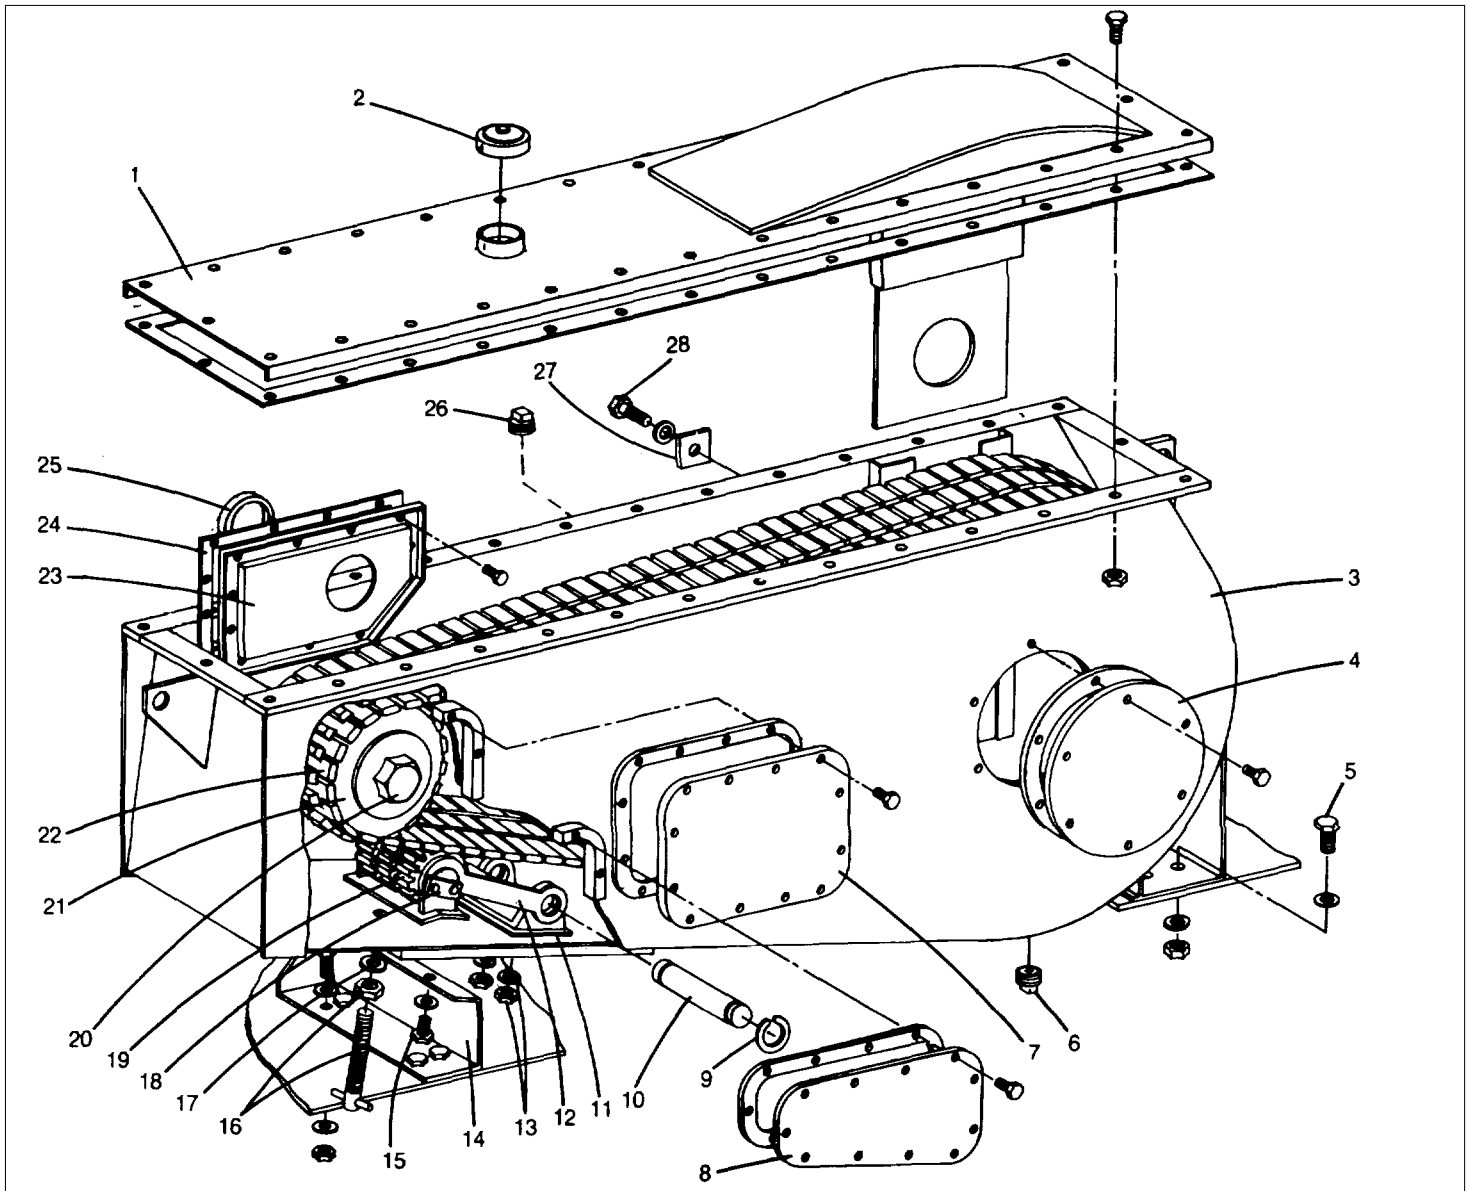
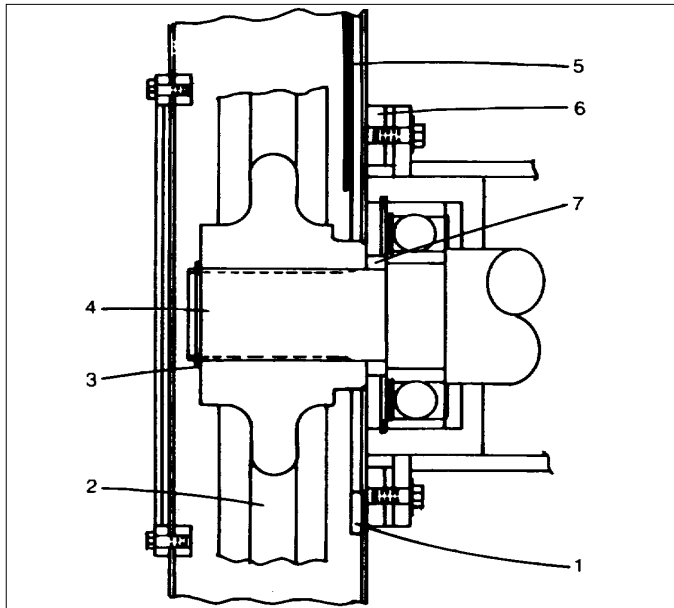

Fig. 1
Fig. 2 KA254-B
6.1 Chain Case Removal (Fig. 1 and Fig. 2)
- (c) Remove all covers (items 1, 4, 7, and 8 in Fig. 1) and gaskets. Drain lubricant from the chain case by removing the drain plug (6). Collect the lubricant in a container and clean up any spills.
- (d) Loosen the adjusting screw nut and adjusting screw (16). To remove the drive chain, refer to "Engine Drive Removal" next in this SM.
- (e) Remove adjusting screw and nut (16) along with the thread seal (17).
- (f) Remove the capscrew (20) and the drive pinion (21).
- (g) Remove the capscrews (28) connecting the chain case to the outboard bearing support. Also remove the outboard bearing spacers (27).
(h) Attach 300 lb.(137 kg) capacity hoist to chain wheel. After the chain wheel is securely supported by the hoist, remove the chain wheel snap ring (item 3 in Fig. 2).
- (k) Use the hoist to lift the chain wheel (2) and hydrooil washer (item 1 in Fig. 2) from the chain case. Set the chain wheel on its side, hydrooil washer on top, on blocking. Disconnect the hoist. Remove hydrooil washer.
- (m) Remove the snap ring (9) and pull the pin (10) out of the adjuster assembly. Remove the two locking capscrews and lock bar (18) from the adjuster assembly. Remove sprocket pin, shims, and sprocket (19) from the adjuster assembly. Remove the bearings from the sprocket with a bearing puller.
- (n) Remove the capscrews holding the retainer (23) to the side of the chain case. Remove the retainer (23), gasket (24) and oil seal (25) from the chain case.
- (o) Remove spacer (item 7 in Fig. 2) from the upper reduction shaft.